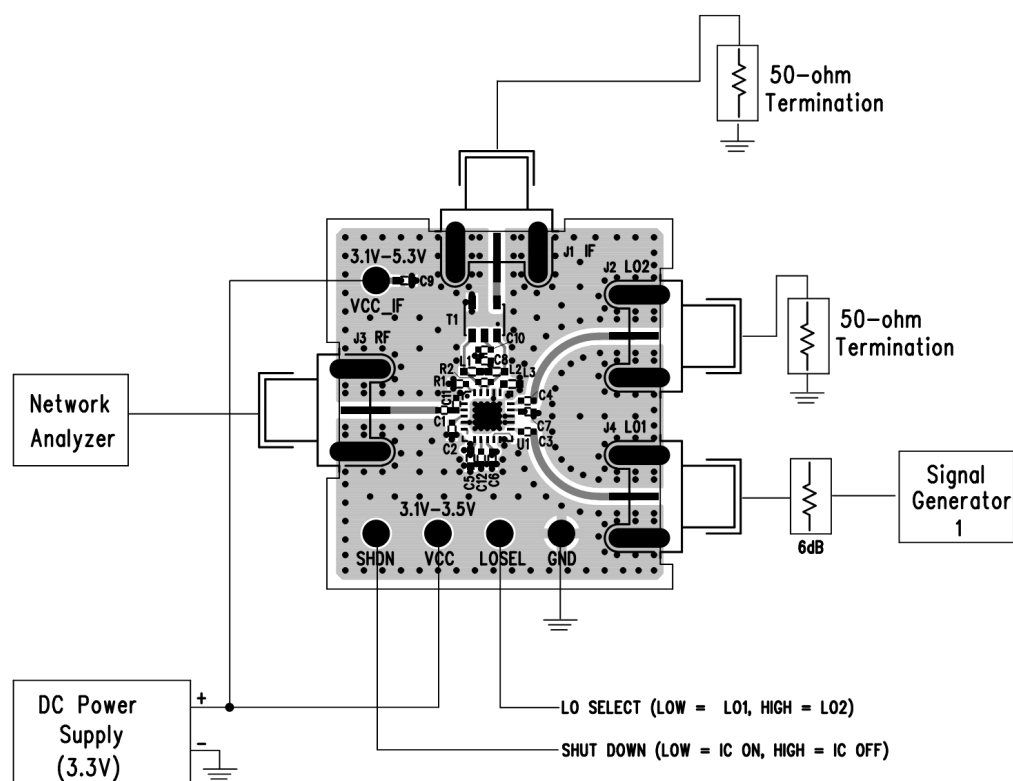
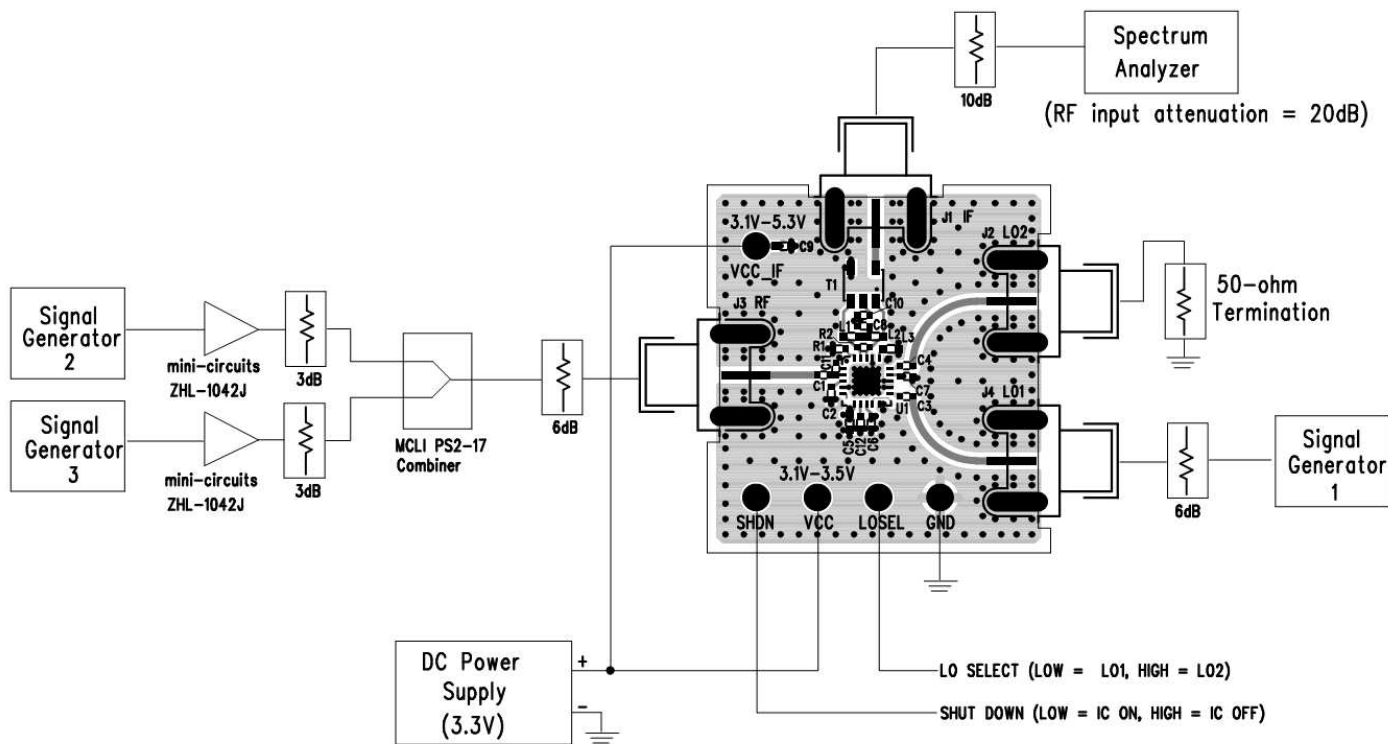
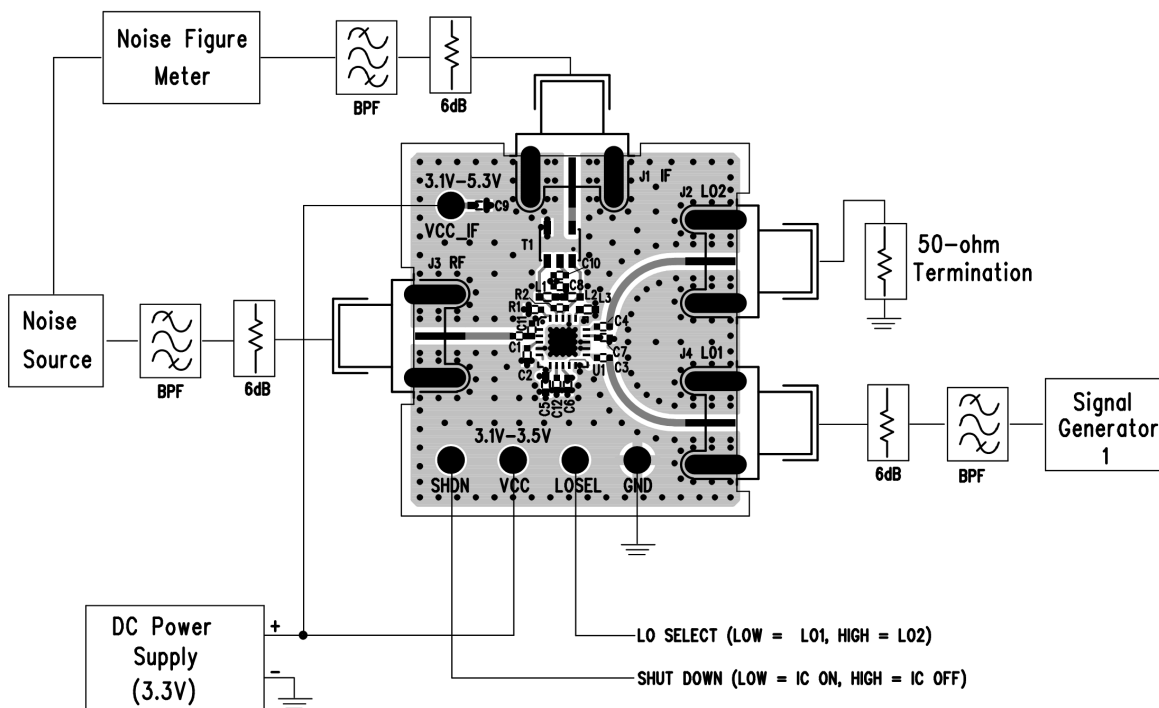

Figure 5. Proper Equipment Setup for Return Loss Measurements
Figure 6. Proper Equipment Setup for RF Performance Measurements
Figure 7. Proper Equipment Setup for Noise Figure Measurement
The LTC5543 is a high dynamic range downconverting mixer IC with very high input 3rd order intercept. Accuracy of its performance measurement is highly dependent on equipment setup and measurement technique. The recommended measurement setups are presented in Figure 5, Figure 6, and Figure 7. The following precautions should be observed:
The LTC5543 consists of a high linearity passive double-balanced mixer core and IF buffer amplifier. Due to the bi-directional nature of all passive mixers, $\text{LO}\pm\text{IF}$ mixing product is always present at the RF input, typically at a level of 12dB below the RF input signal. If the $\text{LO}\pm\text{IF}$ "Pseudo-Image Spur" is not properly terminated, it may interfere with the source signals, and can degrade the measured linearity and noise figure significantly. To avoid interference from the $\text{LO}\pm\text{IF}$ "Pseudo-Image Spur", terminate the RF input port with an isolator, diplexer, or attenuator. In the recommended measurement setups presented in Figure 6 and Figure 7, the 6dB attenuator pad at the demonstration circuit's RF input serves this purpose.
Demonstration circuit 1431A-D is easy to set up to evaluate the performance of the LTC5543. Refer to Figure 5, Figure 6, and Figure 7 for proper equipment connections and follow the procedure below:
3. Connect all test equipment as shown in Figure 5 with the signal generator and the DC power supply turned off.
1. Connect all test equipment as shown in Figure 6 with the signal generators and the DC power supply turned off.
2. Connect all test equipment as shown in Figure 7 with the signal generator and the DC power supply turned off.